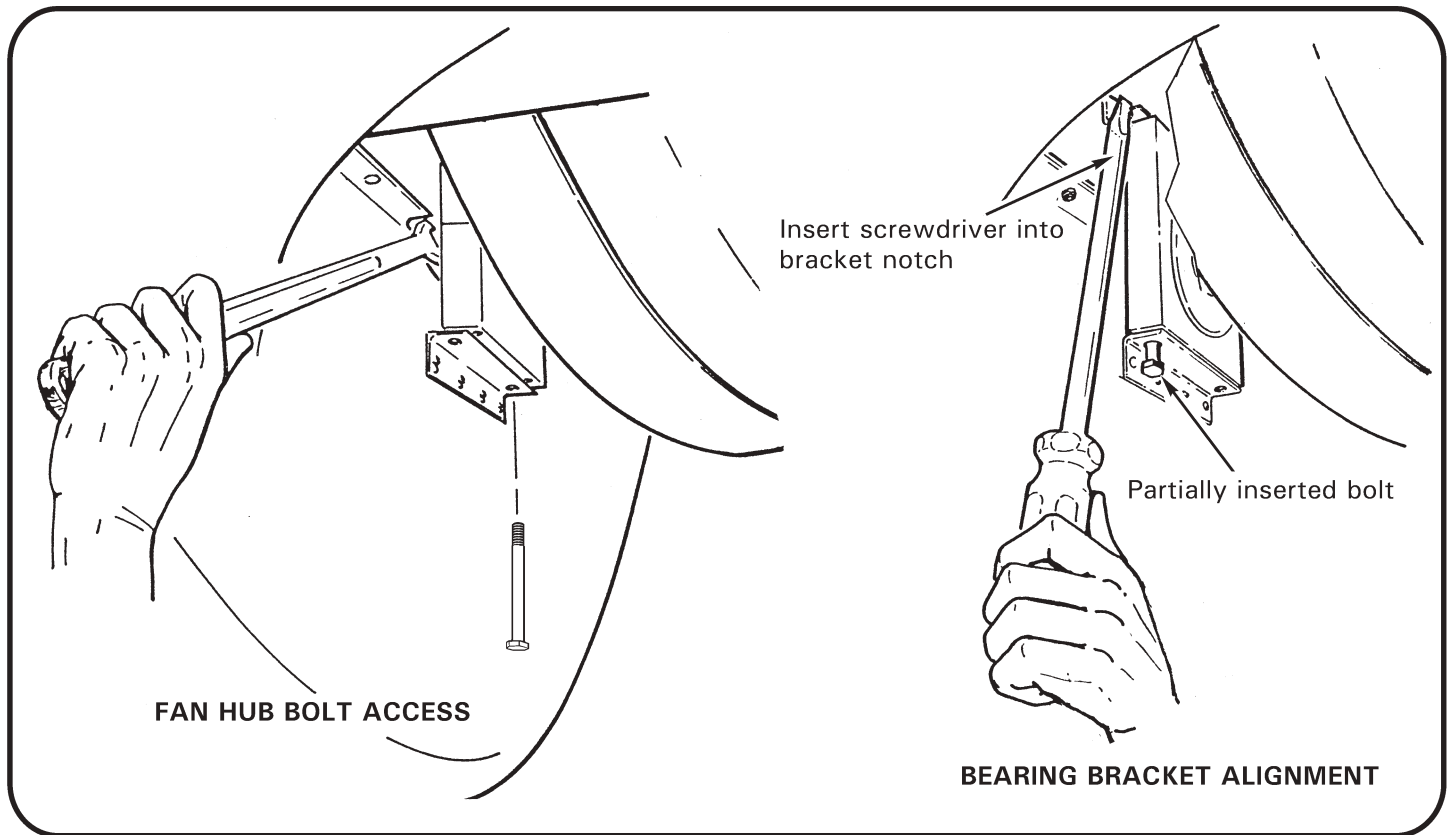

FIGURE 6-3A FAN HUB ACCESS AND LOWER BEARING BRACKET ALIGNMENT
6. Refer to Figure 6-3A. Install lower cooling scroll half (if removed). Insert two AN3 bolts through lower bracket and actuator bearing block until they enter upper bracket nut plates. If required, align upper bracket nutplate by inserting screwdriver in bracket notch. Standard torque bolts per § 23-32 and torque stripe per Figure 2-1.